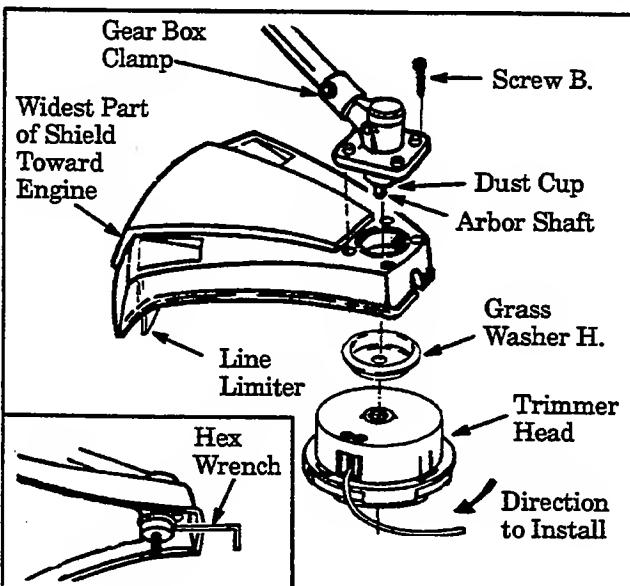

Figure 5
Failure to install the shield in the position shown in Figure 5 can result in serious injury to the operator. The length of the shield must be aligned with the length of the tube. Direct the widest part of the shield toward the engine.
- b. Place the shield under the gear box and insert four screws "B." through the gear box into the shield. Figure 5.
- d. Install grass washer "H." over the arbor shaft. Make sure grass washer "H." is against and curved over the dust cup. Figure 5.
- e. Start threading the trimmer head onto the arbor shaft as shown in Figure 5.
- g. Insert the large hex wrench (provided) into the aligned holes to keep the arbor shaft from turning. Figure 5 (inset).
- h. Tighten the trimmer head counterclockwise against grass washer "H." and the dust cup while holding the large hex wrench. See Figure 5 (inset).